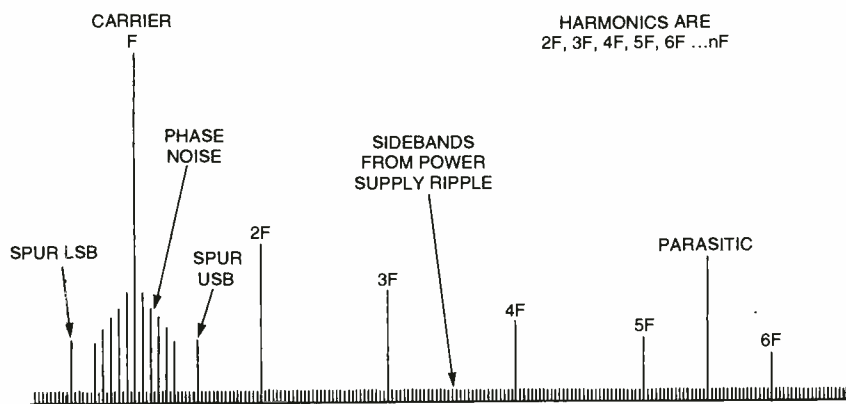

Fig. 1. Shown here is an amplitude-vs-frequency plot of a hypothetical transmitter, as displayed by a spectrum analyzer.
A Look at the Circuit. A schematic diagram of the *Pocket Metronome* is shown in Fig. 1. At the heart of the circuit is an NE556 dual oscillator/timer, IC1, which contains two highly stable oscillators that are
Fig. 1. At the heart of the Pocket Metronome, as revealed by this schematic diagram, is IC1—an NE556 dual oscillator/timer—which contains two independently configurable, highly stable oscillators that share only their power and ground connections.
diagram in Fig. 1), connecting each as required (or possible at this point) before moving to the next part. Carefully make all intercomponent connections using a low-temperature (600°F) pencil-type soldering iron. Note: Components S1–S3, R4, and BZ1 should all be epoxied to the perfboard for support—five-minute epoxy works fine
Figure 1 shows an amplitude-vs-frequency plot of a hypothetical transmitter, as displayed by a *spectrum analyzer* (i.e., a frequency swept receiver with its output connected to an oscilloscope that is swept with the same sawtooth as the receiver's local oscillator).
The main signal is the carrier, F , which is the highest amplitude "spike" in the display. We'll consider only an unkeyed continuous wave signal because modulation sidebands would make a mess out of our clean little picture. All of the amplitudes in Fig. 1 are normally measured in dBc (decibels below the carrier). A signal that is -3 dBc, for example, would be 3 dB lower than the carrier or about half the power of the carrier. For spurious outputs, the lower the level the better, so look for high negative dBc values (e.g., -60 dBc or more).
Because the process of generating a single frequency (F) is not a perfect and precise operation—there's normally a certain amount of noise energy surrounding the carrier. Some of the signals are caused by thermal noise in the circuit, as well as other sources. The signals tend to modulate the carrier, creating the phase-noise sidebands shown in Fig. 1.
oscillation occurs in supposedly broadband solid-state power amplifiers. In some units, a broadband toroid transformer is used to couple the input and output to the transistors of the power amplifier. In such circuits, a DC blocking capacitor is used to prevent bias from being shorted out through the transformer. Unfortunately, the inductance of the transformer and the capacitance of the coupling capacitor form a tuned resonant circuit. If both input and output are tuned to the same frequency, then a species of TGTP-like oscillations are produced. Such oscillations tend to occur in the 10- to 200-kHz range, generating spurious RF sidebands (SPUR LSB and USB in Fig. 1) spaced at that frequency from the carrier, F.
Few transmitters produce a single frequency with no modulation, so Fig. 1 is rather simplistic in order to illustrate the actual case. When the transmitter is modulated (AM, PM, FM *etc.*), sidebands appear. Let's consider only the AM case for simplicity's sake. Let's say we have a 1-kHz audio-sinewave tone modulating a 1000-kHz (1-MHz) RF carrier. When the modulation occurs, a new set of sideband signals appear: The lower sideband (LSB) will appear at $1000 \text{ kHz} - 1 \text{ kHz} = 999 \text{ kHz}$, while the upper sideband (USB) will appear at $1000 \text{ kHz} + 1 \text{ kHz} = 1001 \text{ kHz}$. In the case of a voice amplifier, the nominal range of audio frequencies is about 300 Hz to 3 kHz, so the normal speech sidebands will appear at $\pm 3 \text{ kHz}$ from the carrier, or in our 1000-kHz case, from 997 kHz to 1003 kHz.
The drawing in Fig. 1 illustrates the relationship between the flywheel and piston in all four positions of a typical single-cylinder, four-stroke gasoline engine. (Note the position of the harmonic balancer, also called a vibration dampener, on the flywheel for each quarter cycle of the four-stroke engine.) Figure 1A represents the intake stroke—the time in which gas and air are "sucked" into the cylinder during the first half turn of the flywheel. Following that stroke comes the compression stroke (as illustrated in Fig. 1B)—the period during which the air/fuel mixture is squeezed into an increasingly smaller area as the piston travels up the cylinder and the flywheel completes one full revolution. When the piston reaches the point of maximum compression (top dead center or TDC), a spark is introduced into the cylinder, igniting the air/fuel mixture. That, in turn, forces the piston downward (i.e., creating the power stroke) and moves the flywheel forward another one-half turn, as shown in Fig. 1C.
Fig. 1. Shown here are the various phases of a typical single-cylinder four-stroke gasoline engine. The drawing in A represents the intake stroke, B illustrates the compression period, C shows the power stroke, and D demonstrates the exhaust stroke.